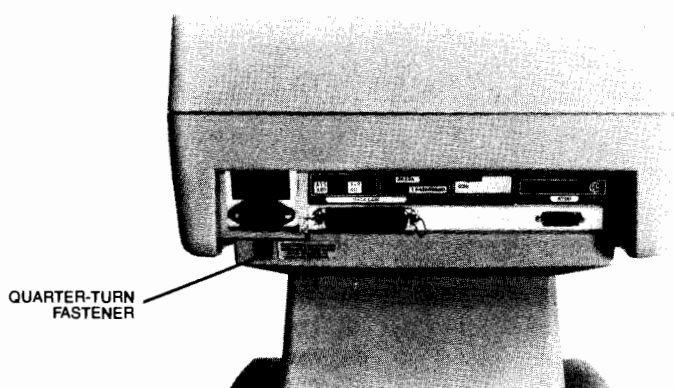

Figure 7-2. Terminal Rear View
2. Loosen the quarter-turn fastener at the left rear of the terminal (as viewed from the rear). See figure 7-2.